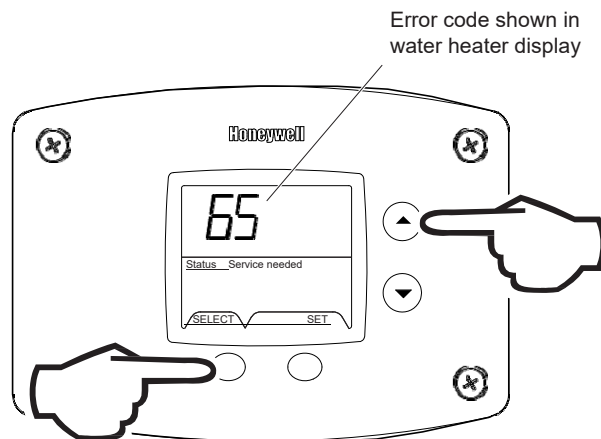

Fig. 72
1. Press for 3 seconds to enter service mode (Fig. 72).